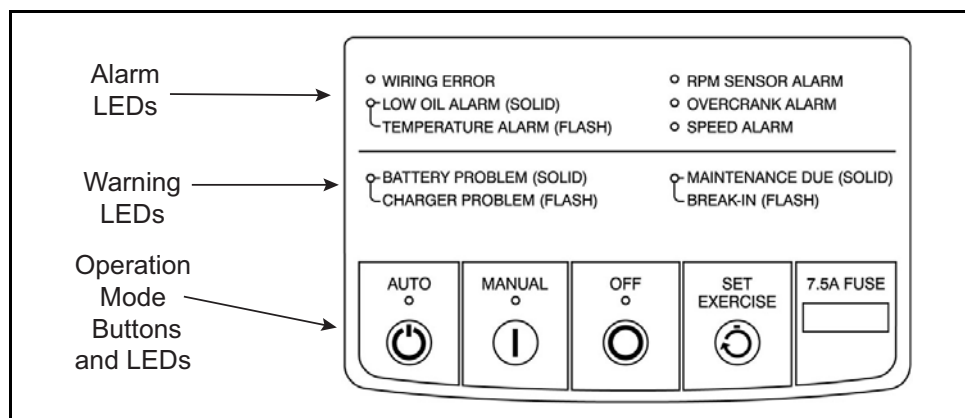

Figure 7-1. Control Panel
2. Contact Generac to obtain your activation code. Call - 1-888-9/ACTIVATE (922-8482, US & CA only) or go to www.activategen.com. For areas outside of the US & CA, please dial the international activation line 262-953-5155. The activation code, you will be given, consists of a sequence of six (6) button presses using the AUTO, OFF and SET EXERCISE buttons. See Figure 7-1. These **MUST** be entered in the exact and correct sequence in order to activate the generator.